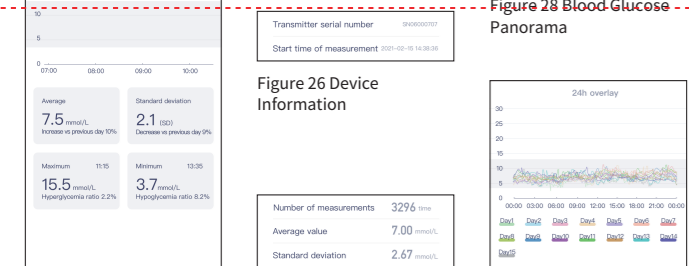

Figure 26 Device Information
- Device information as shown in Figure 26.